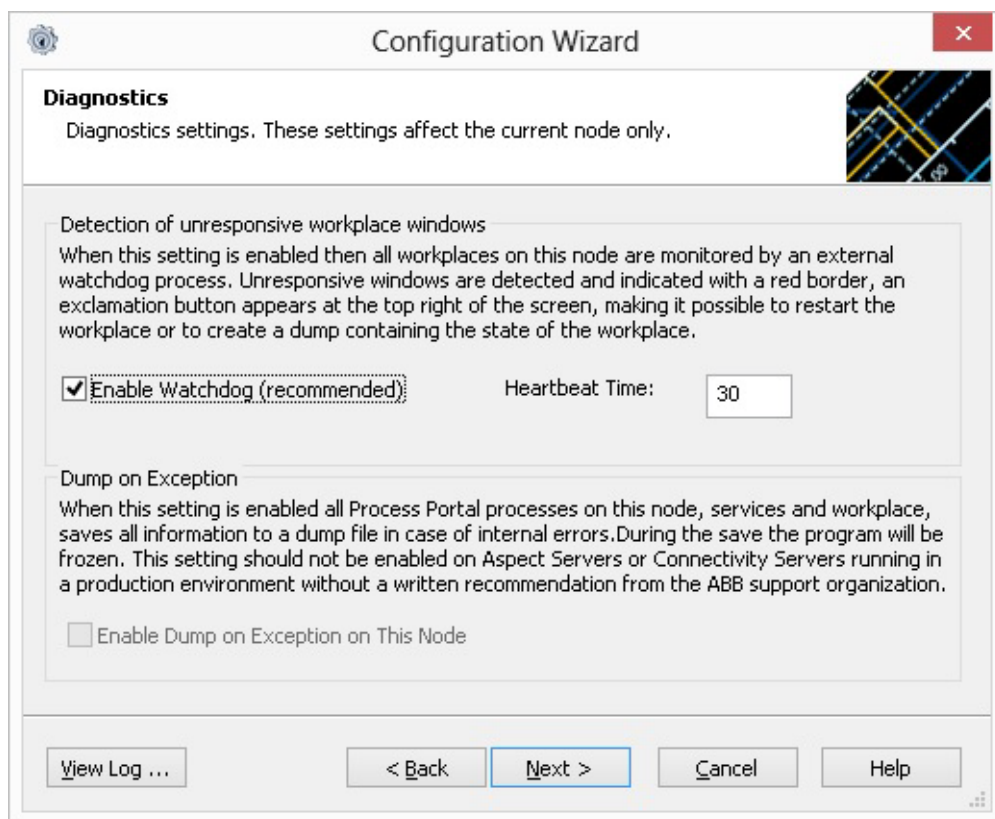

Figure 37. Diagnostics Dialog Box
2. To enable the Watchdog function select the **Enable Watchdog** check box, see Figure 37. When this function is enabled, unresponsive windows are indicated with a red frame. The **Heartbeat Time** is by default set to 30 seconds. A dump file can be saved containing information about the state of the